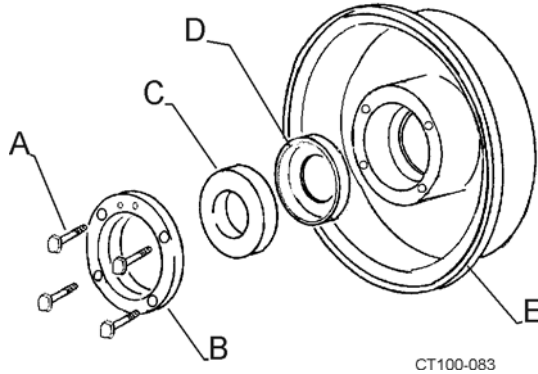
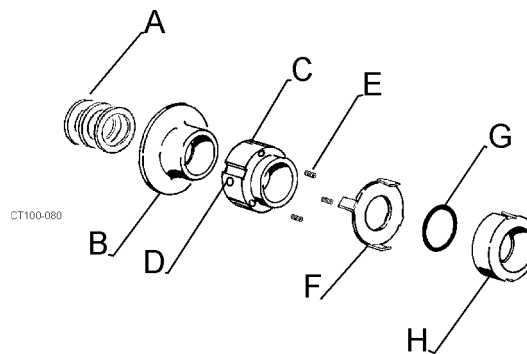

Figure 30 - Stationary Seal Assembly
Figure 32 - Type 1 Seal Assembly
1. Lightly lubricate both sides of the L-gasket (Figure 30, item D) with a sanitary lubricant and insert into the backplate seal cavity.
2. Place the stationary seal into the L-gasket. (Figure 30, items C and D).
3. Place the seat retainer over the stationary seal and secure retainer with four 1/4-20 x 1/2 inch hex head cap screws. (Figure 30, items B and A).
4. Slide the tabbed washer (Figure 30, item F) over the impeller shaft and engage the tabs of the washer into notches on the outside of rotary seal. (Figure 32, items F and H).
5. Install the three seal springs into holes in the spring retainer. (Figure 32, items C and E). Hold the springs in place with RTV silicone sealant.
6. Slide the spring retainer over the impeller shaft until the slots in the spring retainer engage the drive tabs on washer and springs rest against the washer. (Figure 32).
8. Lock the spring retainer in place by tightening the set screws. (Figure 32, item D).
9. Install the deflector on to the impeller shaft. (Figure 32, item B).